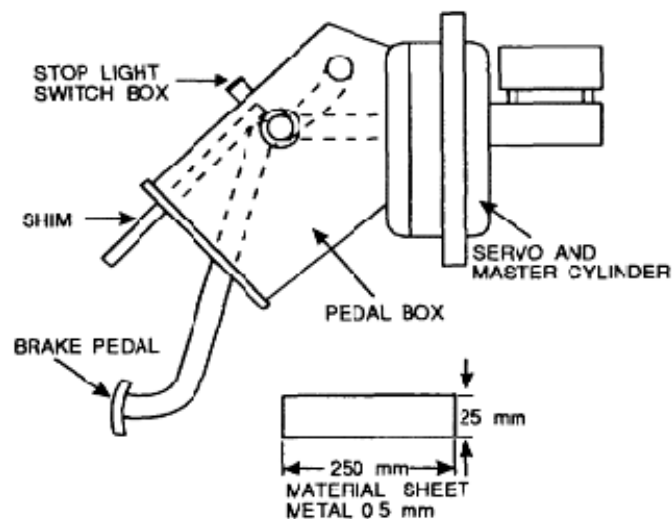

Figure 121 Pedal Free Travel Inspection
- c. Depress the brake pedal slightly and position a shim between the pedal and the brake switch box (Figure 121).